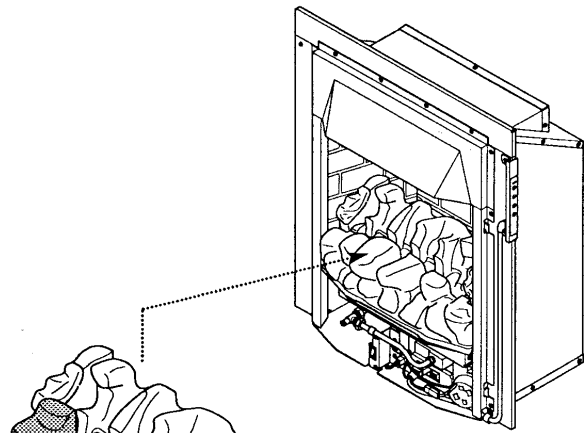

Fig. 26
1. Take 2 coals and place on the outer edges of the front coal moulding (Fig. 26).